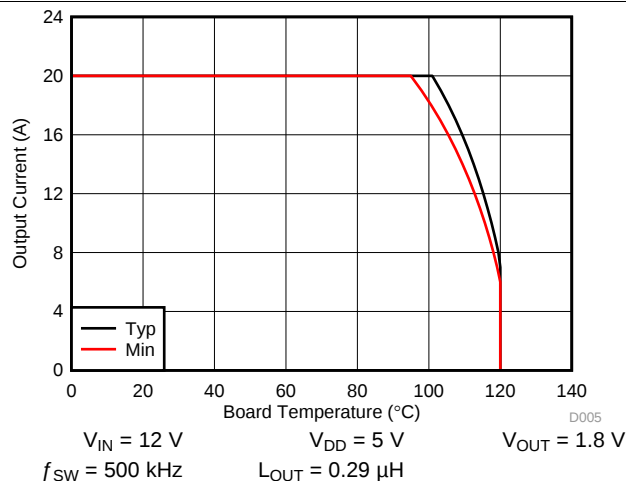

Figure 5. Typical Safe Operating Area ⁽¹⁾
The SOA curves in the CSD97376Q4M data sheet give engineers guidance on the temperature boundaries within an operating system by incorporating the thermal resistance and system power loss. Figure 3 and Figure 5 outline the temperature and airflow conditions required for a given load current. The area under the curve dictates the safe operating area. All the curves are based on measurements made on a PCB design with dimensions of 4 in (W) $\times$ 3.5 in (L) $\times$ 0.062 in (T) and 6 copper layers of 1-oz copper thickness.